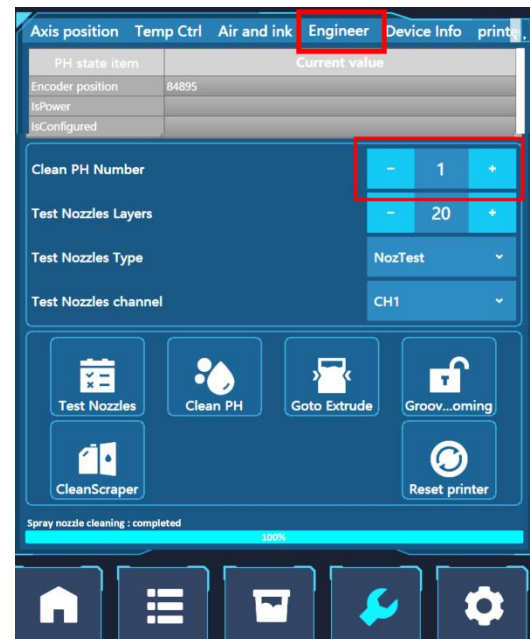

fig. 3-9 Printer preparation is complete
- ② Click **Cleaning PH**. It automatically runs **PrintHead** cleaning 4 times. When finished, "**PrintHead cleaning finished**" appears. Then, set the **PrintHead** cleaning Number to 1, as shown in figure 3-9.
- ① Click **Test Nozzles** in **Engineer** page, it will perform **Test Nozzle** print, as shown in figure 3-9.